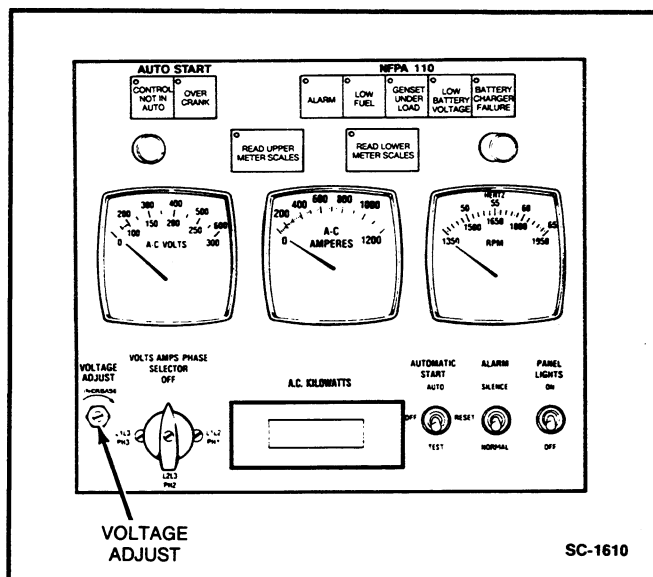

FIGURE 8-6. GENERATOR CONTROL PANEL
The AC generator is fitted with a permanent-magnet exciter which ensures voltage build-up from a low speed such that nominal voltage is achieved within a very short period after generator set start-up. Generator voltage is controlled by the voltage control rheostat located on the Generator Control Panel and the solid-state Voltage Regulator located on the engine side of the generator conduit box (see Figures 8-6 and 8-7).
1. Loosen the voltage control rheostat locking nut. With a screwdriver, turn rheostat fully counter-clockwise, then fully clockwise, then to mid position (see Figure 8-6).
4. Perform fine voltage adjustment ( $\pm 3$  percent) of control rheostat as necessary and retighten locking nut (see Figure 8-6).